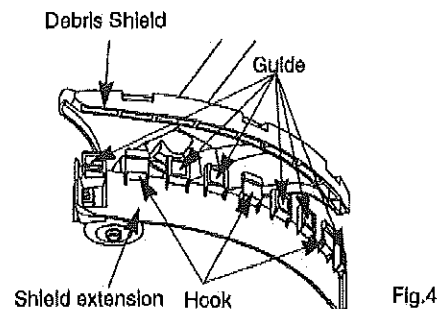

Fig.4
3. Enter the guide in the slot of debris shield on Fig. 4.